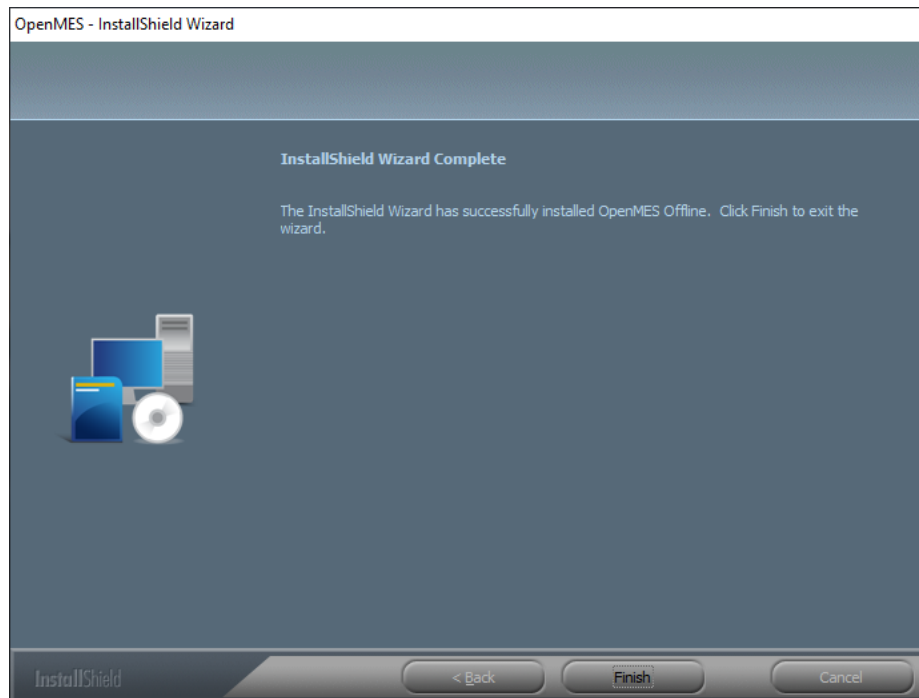

Figure 15: Installation Complete Window
12. The Installation Complete window is displayed when installation has been successfully completed as shown in Figure 15.